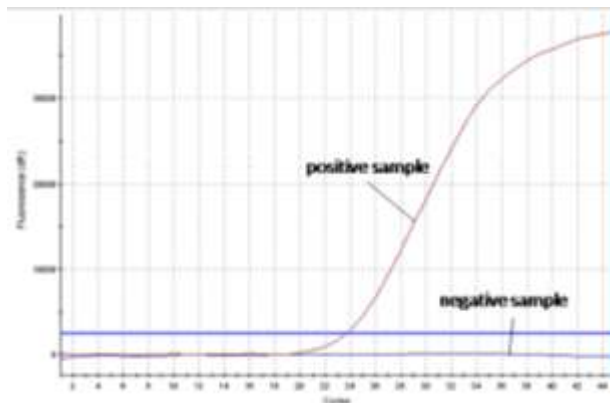

Figure 1: The positive sample shows virus-specific amplification in the FAM channel, whereas no fluorescence signal is detected in the negative sample.
**Figure 1** and **Figure 2** show examples for positive and negative real time RT-PCR results.